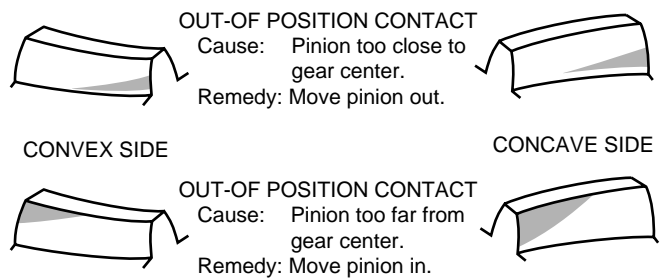

Figure 12. Tooth Pattern, Correct and Incorrect
5. With gears adjusted for approximate backlash, blue (Prussian blue in oil) the pinion teeth. (By using a long handled brush or swab, the pinion teeth can be reached through the inspection opening.) Drive the pinion by turning the fan shaft in both directions for several revolutions. Observe the markings on both gears on both sides of the teeth. Compare the markings with the contact pattern shown in Figure 12.